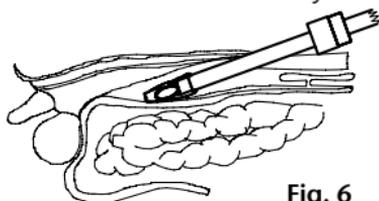

Fig. 6
- If necessary, put sterile lubricant onto the distal end of the balloon system and introduce it through an existing access port into the prepared extraperitoneal space. While introducing the balloon system and during the surgical intervention, please make sure that the balloon is not damaged by other instruments (see fig. 6).